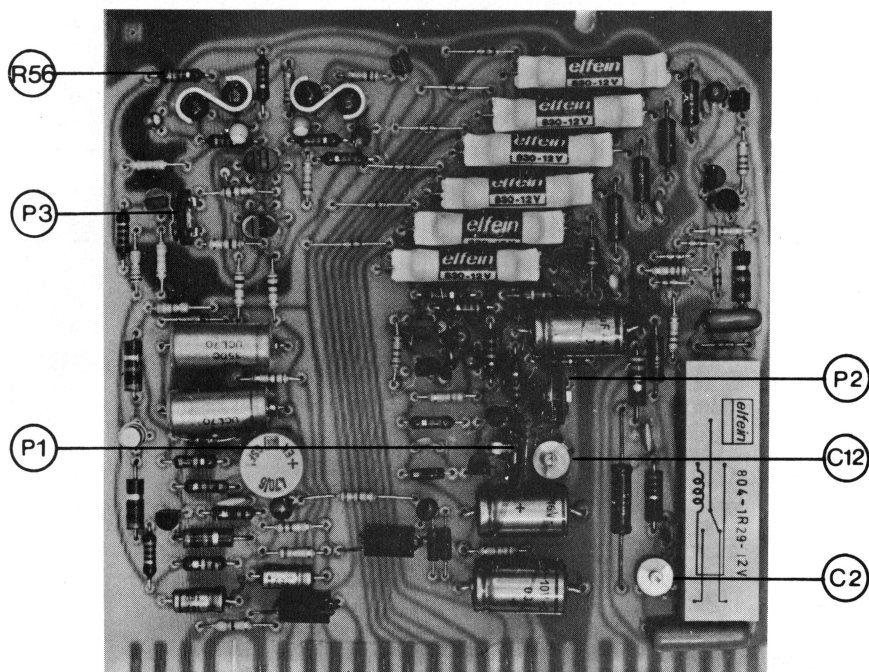

Fig. 7. Adjustment of sensitivity and frequency response.
4. Apply a 100-mV 1-kHz RMS voltage (check with digital voltmeter) to input terminals. Adjust moving-coil meter for full-scale deflection («0 dB») on dB scale with potentiometer P1, Fig 7.
5. Measure voltage across R56, Fig. 7, with the digital voltmeter. Adjust for 9.35 V with potentiometer P3.